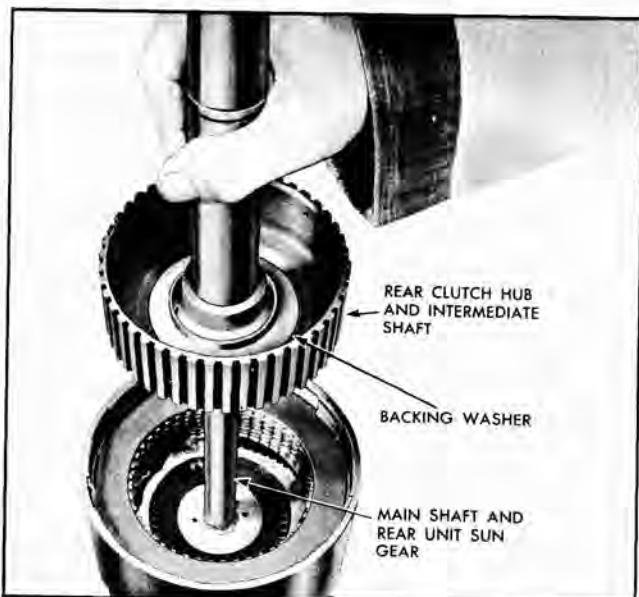

Fig. 90 Installing Intermediate Shaft and Clutch Hub into Plates
hub (Fig. 90). Place backing washer, flange up, on the large thrust washer.
16. Lower intermediate shaft and clutch hub with thrust washers into rear drum (Fig. 90). NOTE: Pick up clutch drive plates by rotating intermediate shaft. Do not drive or force clutch hub into mesh with drive plates.